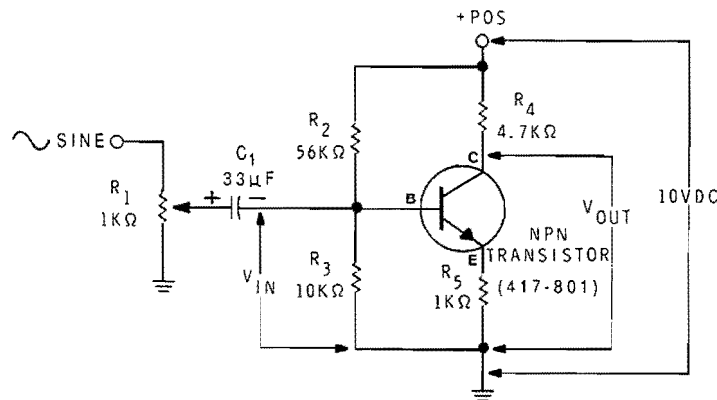
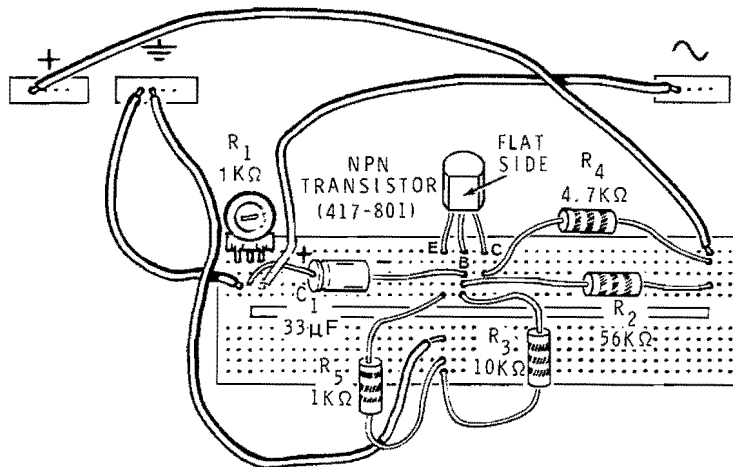

Figure 1-35
Figure 1-36
3. Construct the circuit shown in Figure 1-35. Use the wiring diagram shown in Figure 1-36. The experimental circuit is a common-emitter amplifier. The amplifier uses voltage divider bias, provided by the 56 kilohm resistor ( $R_2$ ) and the 10 kilohm resistor ( $R_3$ ). The 1 kilohm resistor ( $R_5$ ) provides emitter feedback. The 4.7 kilohm resistor ( $R_4$ ) serves as the output load resistor. The sine wave output from the signal generator is applied to the 1 kilohm potentiometer ( $R_1$ ).  $R_1$  will be used to control the amplitude of the AC voltage (sine wave) provided by the signal generator. This variable AC signal will be used as the input signal voltage ( $V_{IN}$ ). The sine wave is coupled to the input of the amplifier circuit through the 33 microfarad capacitor ( $C_1$ ).
24. Make sure your circuit is wired in the original manner as shown in Figure 1-35. Adjust potentiometer  $R_1$  for maximum resistance so that  $V_{IN}$  will be zero.